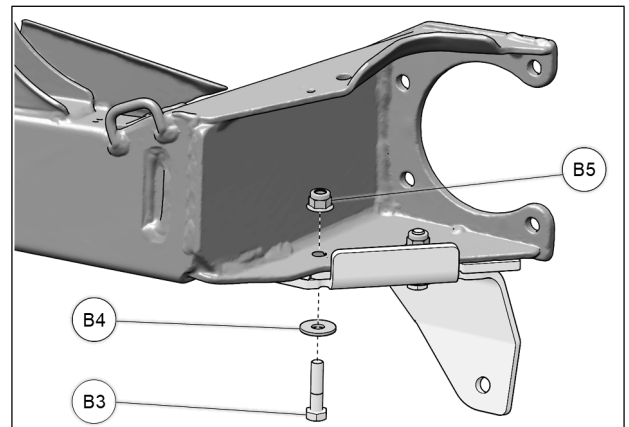

Fig. 7
7. From the bottom, insert a M8x35mm bolt (B3) with washer (B4) through newly drilled hole, and secure with provided nut (B5). Tighten to 40 N•m [37 lb•ft]. See Fig. 7